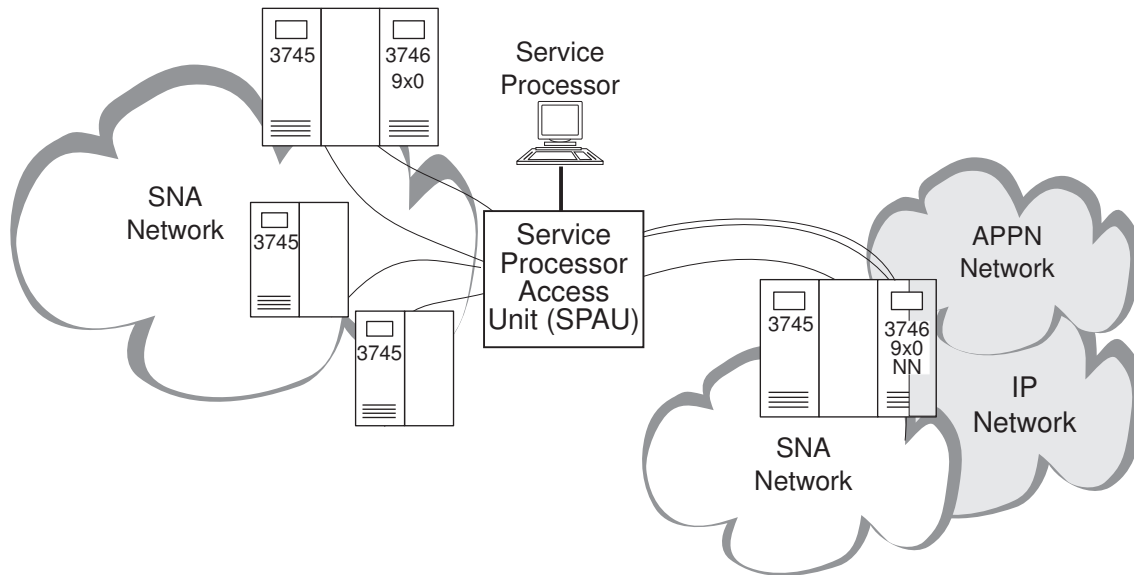

Figure 2-2. Example 2 of a Maximum Configuration. Service processor running four 3745s and two 3746-900s, one operating as an APPN/HPR network node.
- Four 3745s and two 3746-900s, one operating as an IP Router and APPN/HPR network node (see Figure 2-2).